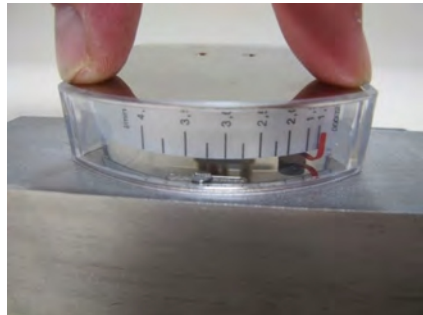

Fig. 61
23. ▶ Fit the display cover plate onto the plastic housing and carefully press down (Fig. 61) until it snaps into place.